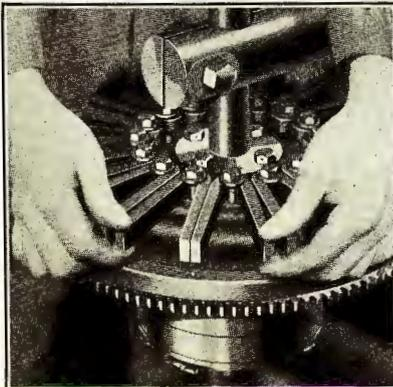

Fig. 193
- 286** As a final check to make sure that all adjacent magnet ends have the same polarity, move all the magnets back and forth on the flywheel and see that none of them stick when the sides of the magnets are placed together (See Fig. 193).